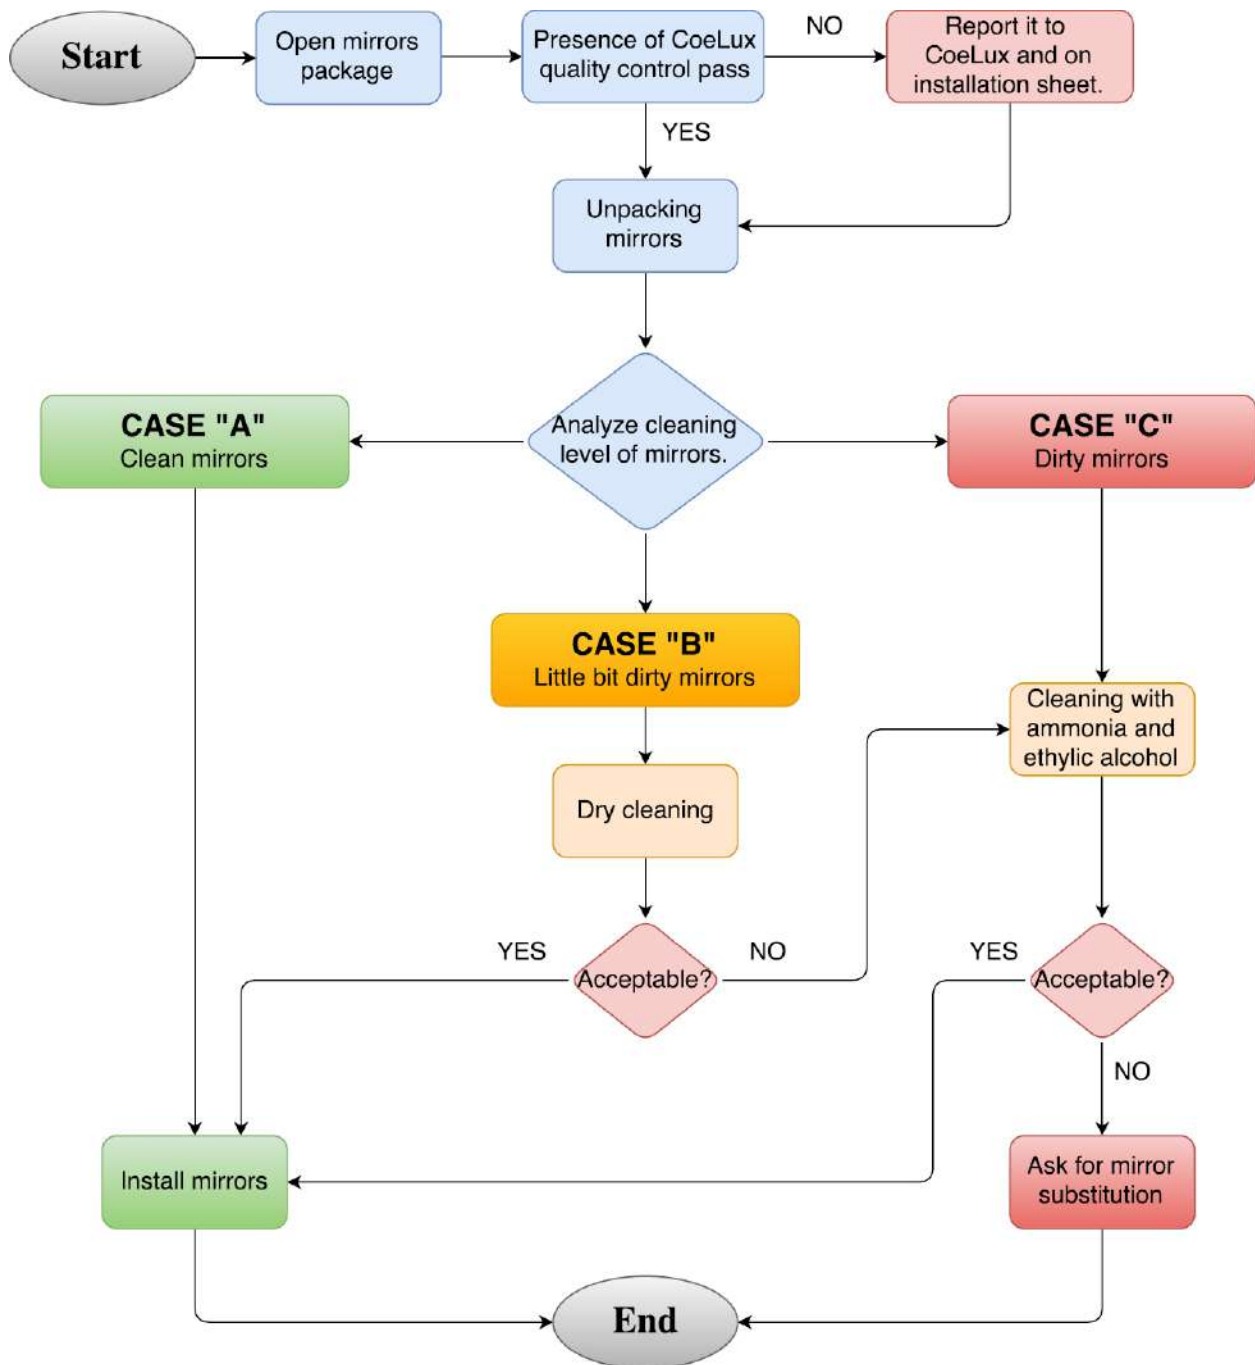

Fig. 5 Flow chart analysis and extraordinary cleaning procedure of mirrors
- 2 Insert the bottom panels [4] and [5] (listed PN 73-00055-01 and 73-00053-01) everything inside the tubes is shown in figure 5 and fix them to the tubes connected to the M4 self-threading screws supplied. The horizontal profile of the panel [5] (red detail in figure 5) must be in line with the horizontal ones of the side panels (red detail in figure 5).